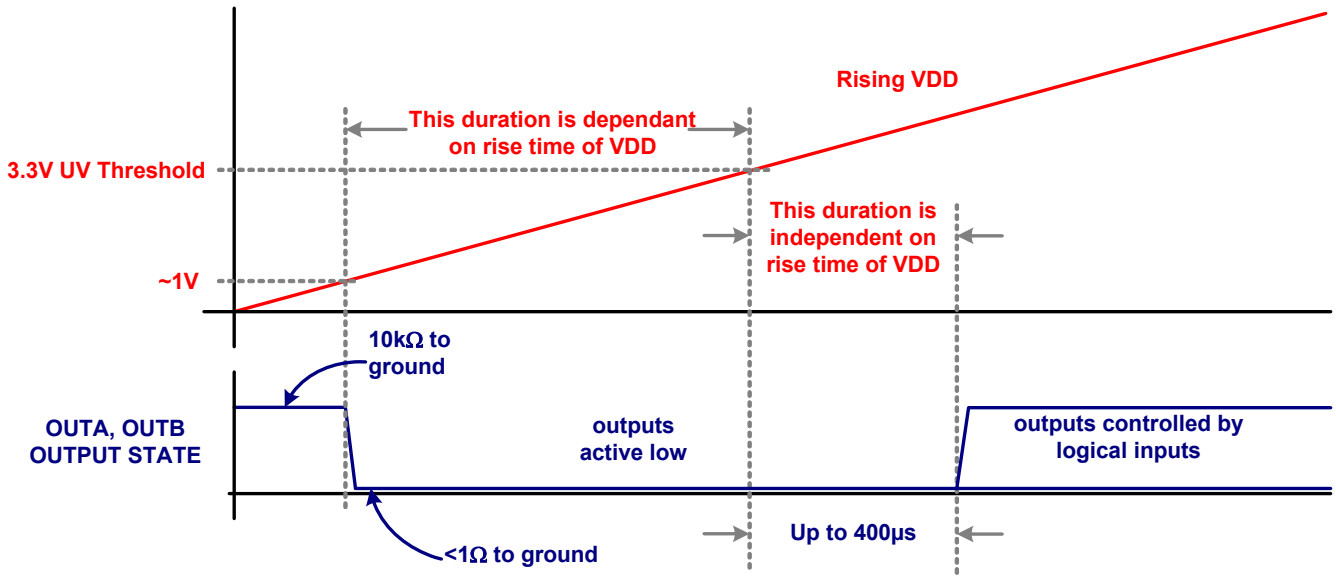

FIGURE 9. START-UP SEQUENCE
11. A 400 μs delay further inhibits the release of the output state when the UV positive going threshold is crossed. See Figure 9.
The start-up sequence for is designed to prevent unexpected glitches when V_{DD} is being turned on or turned off. When $V_{DD} < \sim 1V$, an internal 10k Ω resistor connected between the output and ground, help to keep the gate voltage close to ground. When $\sim 1V < V_{DD} < UV$, both outputs are driven low while ignoring the logic inputs. This low state has the same current sinking capacity as during normal operation. This insures that the driven FETs are held off even if there is a switching voltage on the drains that can inject charge into the gates via the Miller capacitance. When $V_{DD} > UVLO$, and after a 400 μs delay, the outputs now respond to the logic inputs. See Figure 9 for complete details.